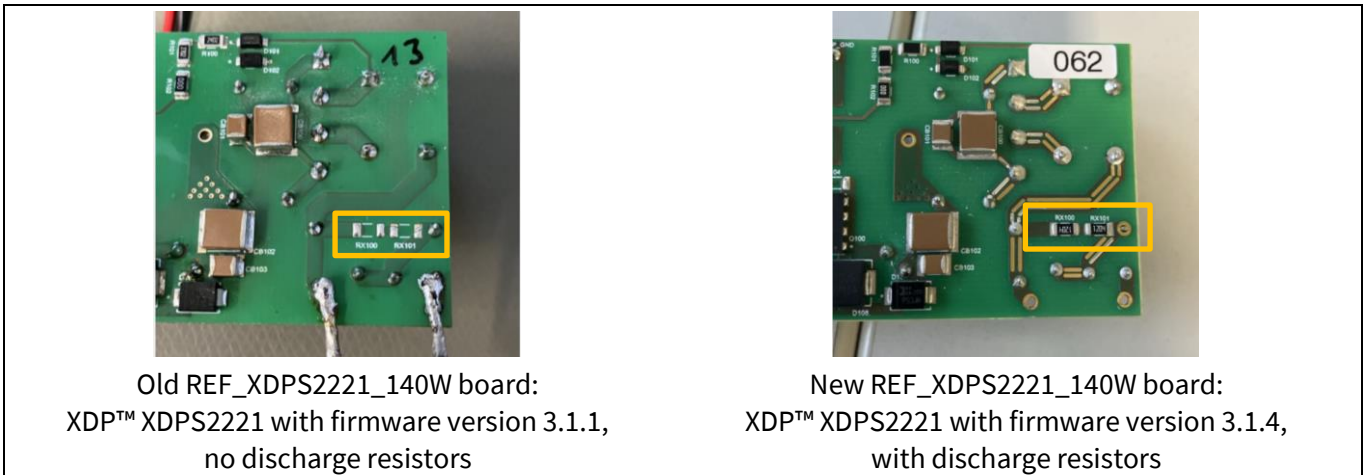

Figure 3 REF_XDPS2221_140W board (old and new board)
3. Add discharge resistors. As the new firmware version 3.1.4 does not support active X-cap discharging, you must add discharging resistors to the input; RX100 and RX101 (1.2 MEG each) as shown in Figure 3.